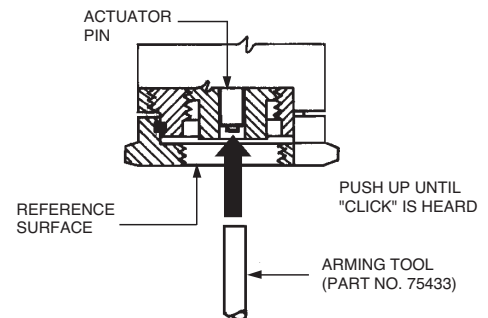

FIGURE 13
2. To arm the actuator, use arming tool, Part No. 75433, to force the pin inside the reference surface until a distinct “click” is heard. See Figure 13. To verify that the actuator is properly armed, repeat Step 1.